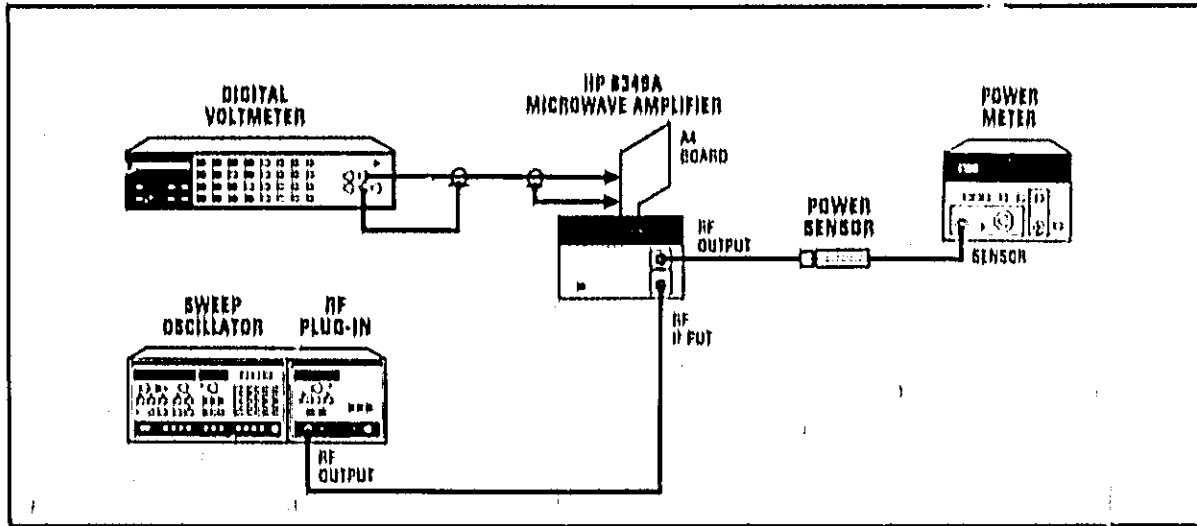

Figure 8-18. Troubleshooting Test Setup
2. Connect the equipment as shown in Figure 8-18 (refer to the Service Position Installation Procedure for extending the A4 board). Set the sweep oscillator to CW, 10.0 GHz, internal leveling and a power level of -5.0 dBm.